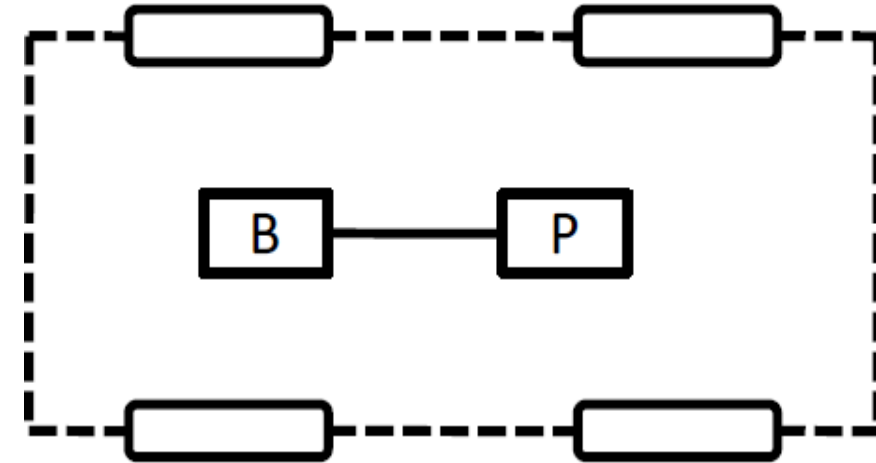

Figure 4a: EV configuration with battery source [1]
1. Configuration 1: Figure 4a: